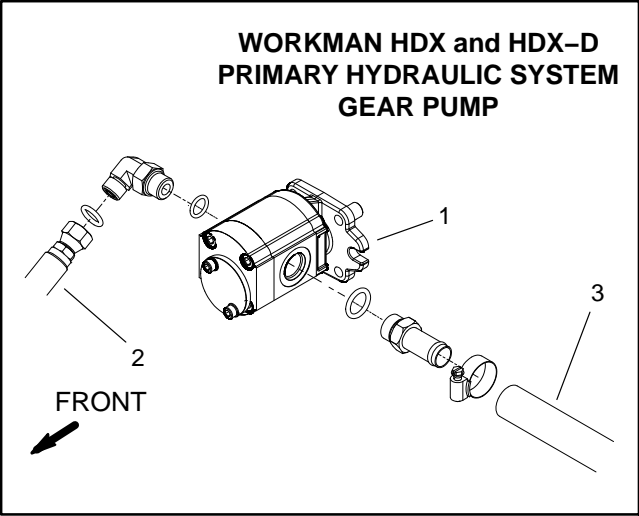

Figure 21
3. Disconnect hose connection on primary hydraulic system gear pump leading to the steering control valve (Fig. 21 or 22).